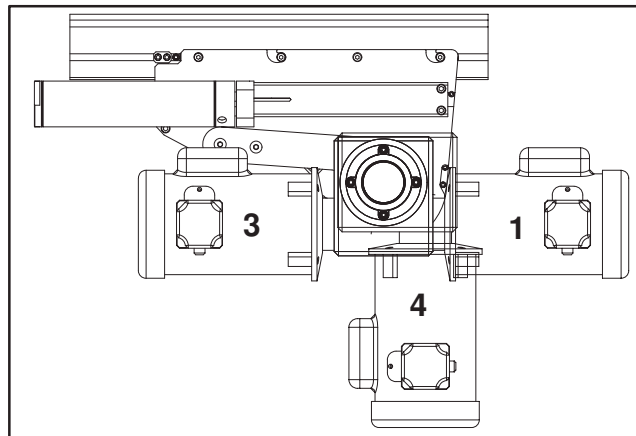

Figure 39
*Gearmotor may be operated in positions 1, 3 or 4 (**Figure 39**).*